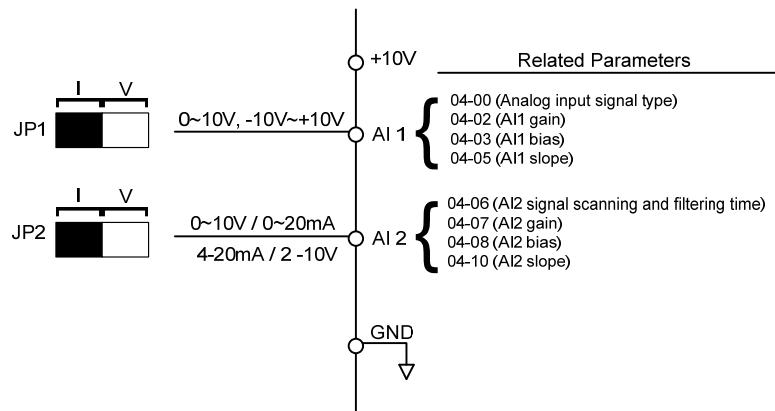

Figure 4.3.35 Analog inputs and related parameters
- (1) Analog input level adjustment AI1/AI2(04-02, 04-03, 04-07, 04-08)
- Analog input signal AI1 can be adjusted with parameter 04-02 and 04-03. Analog input signal AI2 can be adjusted with parameter 04-07 and 04-08. Refer the figure 4.3.35 .